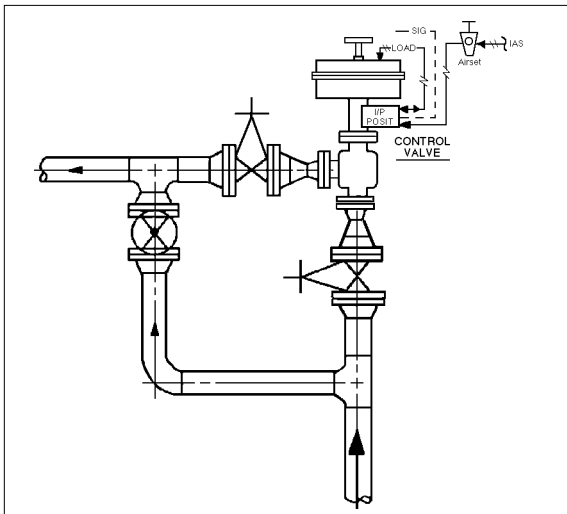

Figure 1: Typical Control Valve Station
1. It is recommended that the control valve unit be installed with a double-block and bypass as indicated in Figure 1. This arrangement is